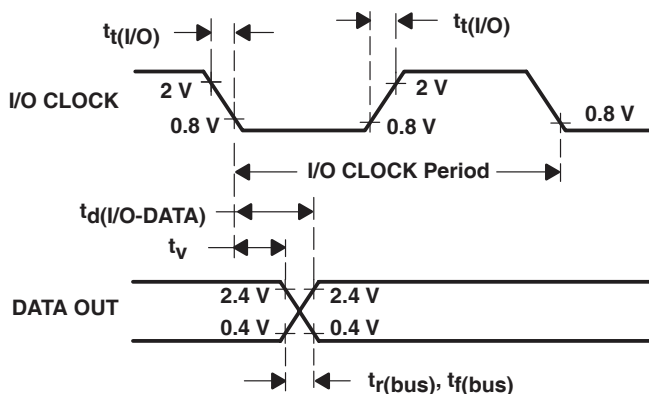

Figure 5. I/O CLOCK and DATA OUT Voltage Waveforms
| Transition time, I/O CLOCK, $t_t(\text{I/O})$ (see Note 5 and Figure 5)                                  |                                       |          |          | 1              | $\mu\text{s}$      |
| $t_v$                  | Valid time, DATA OUT remains valid after I/O CLOCK $\downarrow$                                        | See Figure 5                | 10  |                                    | ns            |
| $t_d(\text{I/O-DATA})$ | Delay time, I/O CLOCK $\downarrow$ to DATA OUT valid                                                   | See Figure 5                |     | 240                                | ns            |
| $t_{r(\text{bus})}$    | Rise time, data bus                                                                                    | See Figure 5                |     | 300                                | ns            |
| $t_{f(\text{bus})}$    | Fall time, data bus                                                                                    | See Figure 5                |     | 300                                | ns            |
9. I/O CLOCK period = 1/(I/O CLOCK frequency). Sampling begins on the falling edge of the third I/O CLOCK, continues for seven I/O CLOCK periods, and ends on the falling edge of the tenth I/O CLOCK (see Figure 5).